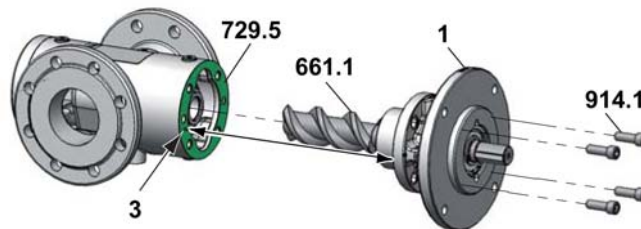

Fig. 19
7. Slide the main screw with premounted flange cover into the pump housing until the main screw engages into the idle screws. Take the position of the straight pin 3 into account and turn the main screw, see Fig. 19.